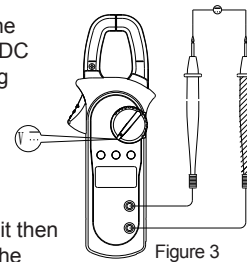

Figure 3
1. DC voltage measurement ($V \rightarrow$) (See Figure 3)